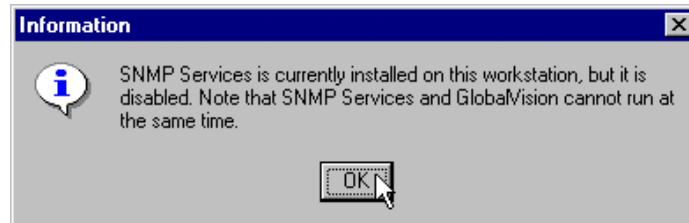

Figure 11 – SNMP Service Information message
8. If SNMP Service is installed but not running, a SNMP Service INFORMATION message box will appear. This warning message informs you that SNMP Service is installed. The message also warns that GlobalVision and SNMP Service cannot run at the same time. Click **OK** to continue installation. See Figure 11. If SNMP Service is not installed, this message will not appear.